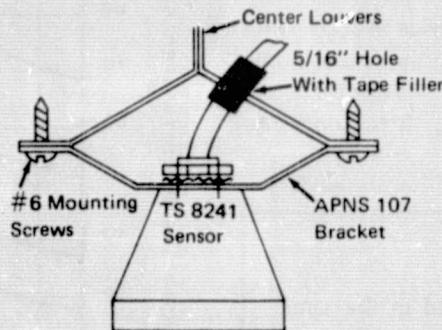

Figure 4.
- B. Fig. 4. Locate hole center on one louver about 5/16" from junction of two center back to back louvers.
- B. Fig. 4. Drill two holes, one each on bottom edge of back to back louvers.